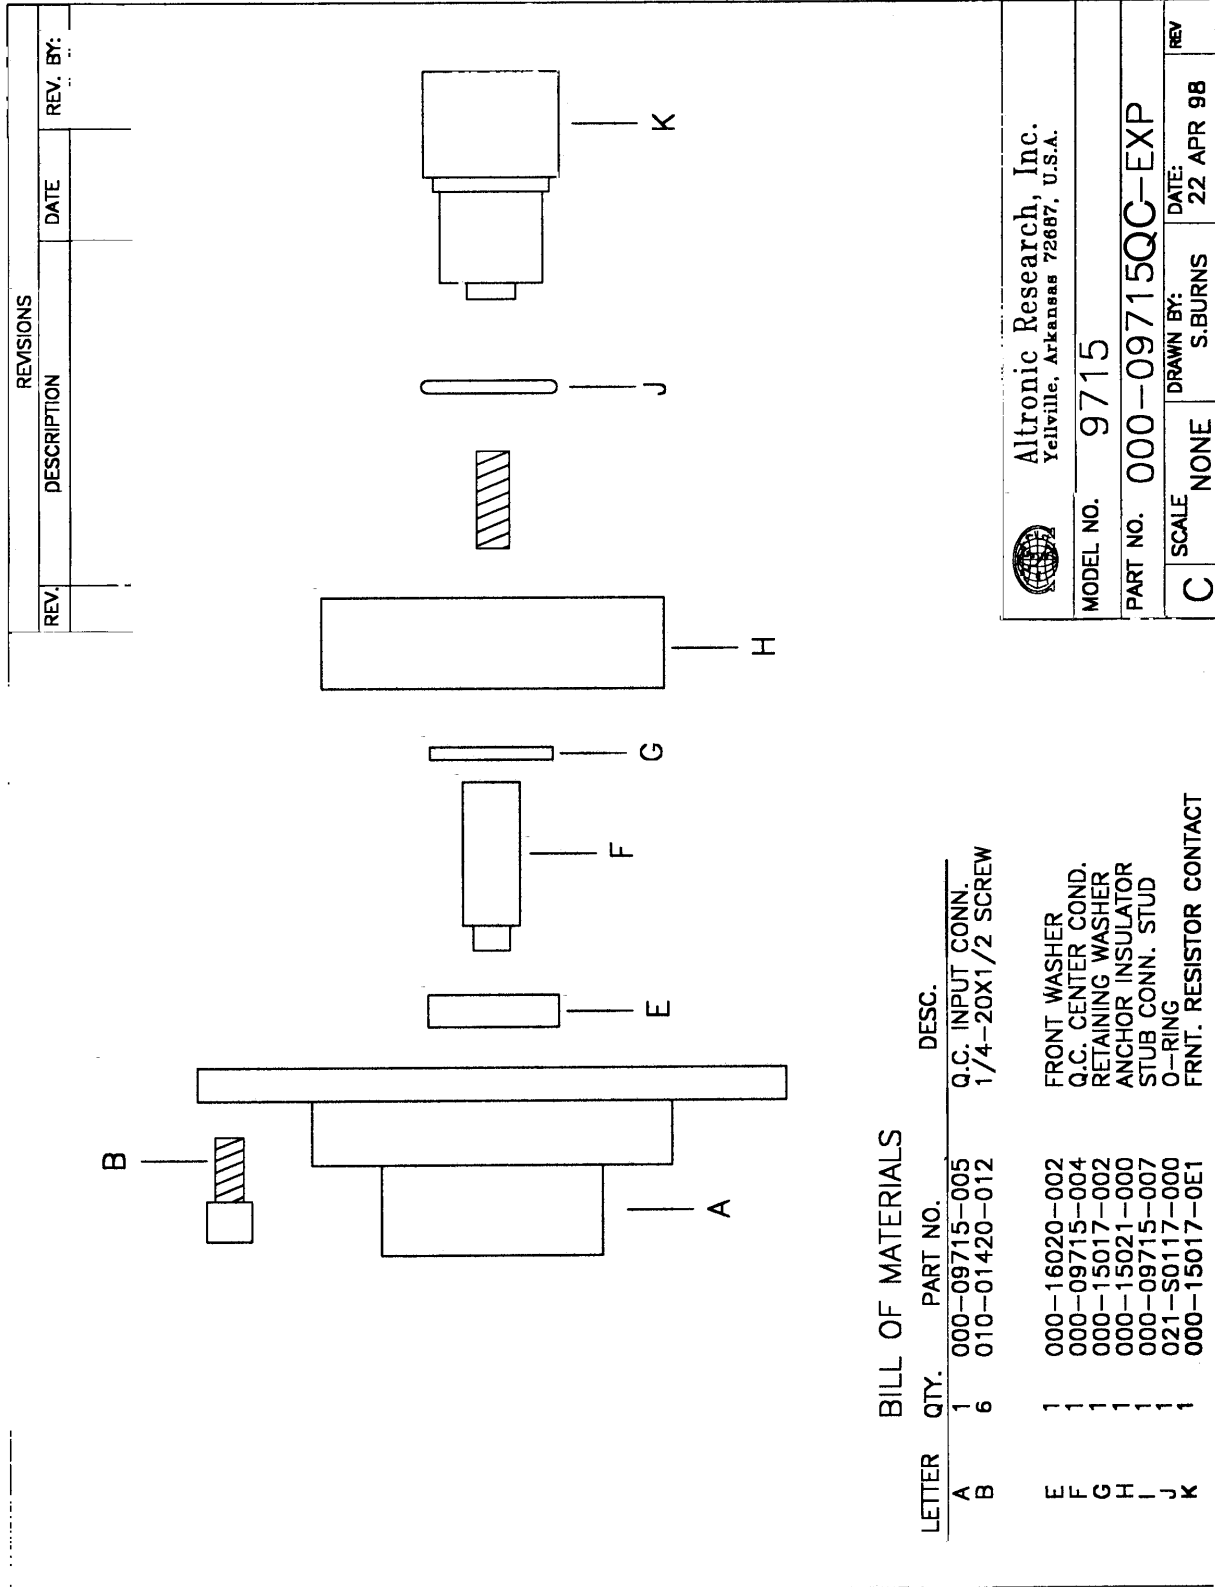

Fig. 15
5. **Removal of RF Input** - (Refer to Fig. 15) To remove the RF input line adaptor flange (item A), remove six 1/4-20x1/2 socket head screws that secures the line adaptor flange to the load body housing (item D, Fig. 14). The RF input assembly consisting of the Q.C. center conductor, anchor insulator and front resistor contact (items E, F, G, H, I, J and K) will normally remain in the load body. Lift front washer (item E) off Q.C. center conductor (item F). Grasp the Q.C. center conductor by hand and attempt to pull the input assembly out of the load body using slight side to side motion while pulling. If strong resistance is encountered, it may be necessary to chill the load to allow the anchor insulator to shrink away from the load housing. This can be done by placing the load in a freezer, or packing the load in ice for 20 to 30 minutes. Once the anchor insulator has shrunk away from the load housing, the RF input assembly should be easily removed. At this point of disassembly, all components of the load can be inspected or replaced as needed. Reassembly should be done in the reverse order of sequence.